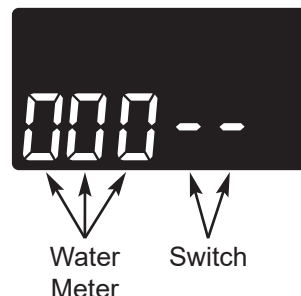

FIG. 53
3. The letter "P" and a dash (or dashes) indicate POSITION switch operation (See Figure 53). If the letter appears, the switch is closed. If the dash shows, the switch is open.